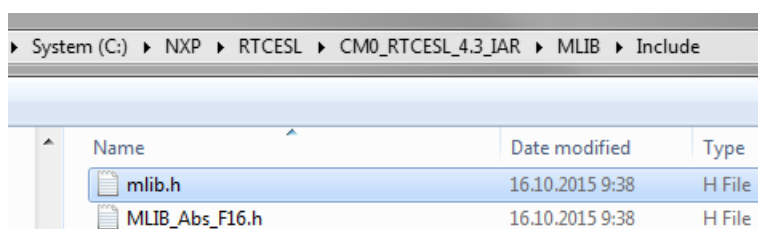

Figure 1-44. Add Files dialog
5. Navigate into the library installation folder C:\NXP\RTCESL\CM0_RTCESEL_4.5_IAR\MLIB\Include, and select the *mlib.h* file. (If the file does not appear, set the file-type filter to Source Files.) Click Open. See Figure 1-44.